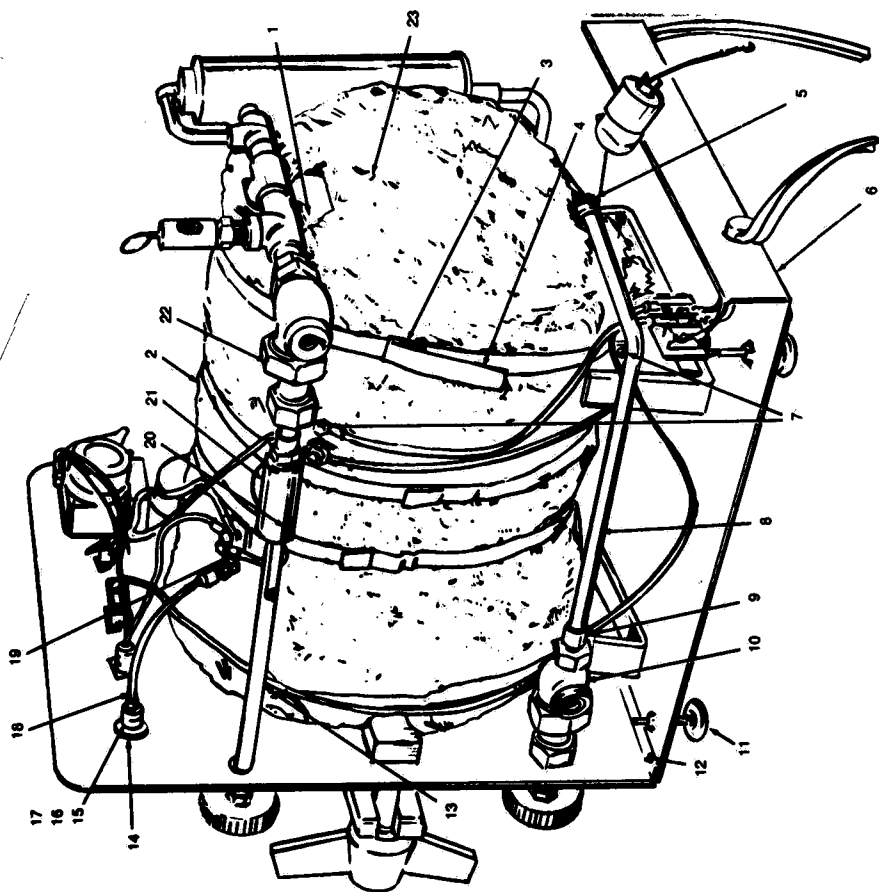

Figure 6. Base and Shell Group (right side)
5. Heater Element Replacement. Refer to Figure 6. Disconnect line cord plug from outlet socket. Remove Finishing Jacket from base. Loosen insulation. Disconnect lead wires from defective heater element (7). Loosen two screws securing heater straps just enough to allow heater elements' removal from outside of the chamber wall. Install new heater element and connect lead wires. Reassemble.
6. Thermoswitch Replacement. See Figure 6. Disconnect line cord plug from outlet socket. Remove finishing jacket as directed in Chap. IV, Par. 6. Disconnect wires from terminals on Thermoswitch (19). Loosen set screws on flexible shaft (18) coupling and remove coupling from thermoswitch adjusting shaft. Remove screws securing thermoswitch to sterilizer shell, remove thermoswitch. Install new thermoswitch and connect wires to proper terminals. Reassemble and adjust thermostat control knob as described in Chap. IV, Item 11.